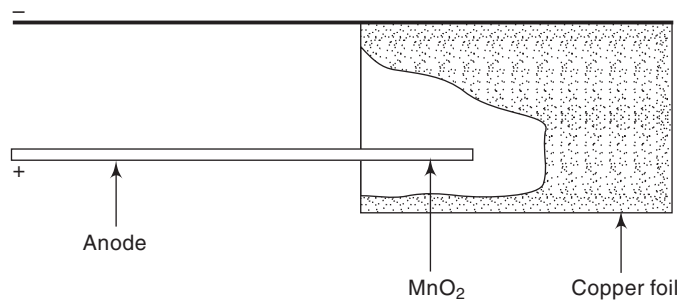

Fig. 2.15 Solid-anode type tantalum capacitor
- **Solid-anode type** As shown in Fig. 2.15, this type of capacitor is made by sintering an anode pellet on which a layer of tantalum oxide is formed. The pellet is then formed with a manganese dioxide layer which serves as a solid dielectric. The cathode connection is made by coating this pellet by carbon and silver paint. The solid-anode construction is most widely used. It has the longest life and lowest leakage current of the three types of tantalum capacitors.